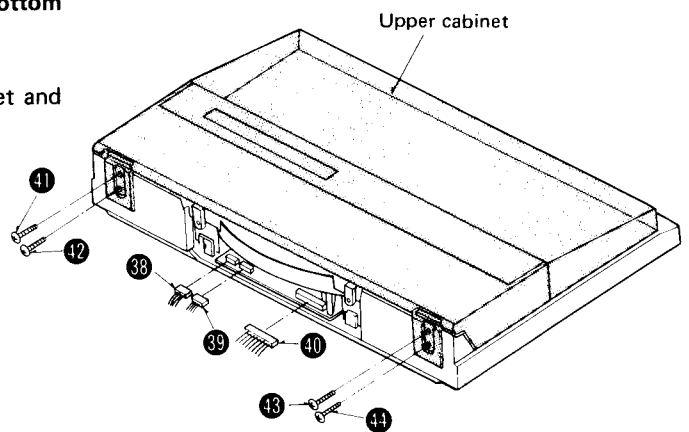

Fig. 11
2. Remove the connectors ⑩ ~ ⑫. (Fig. 11)
3. Remove the hinge setscrews ⑪ ~ ⑬; open the upper cabinet and remove it by lifting. (Fig. 11)